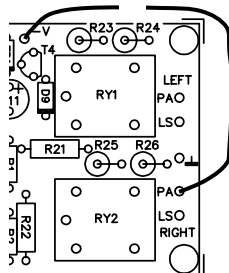

Fig. 4.0
- ❑ When the connection is interrupted again (figure 4.0), the red LED should extinguish and after approx. +/- 6 sec. the yellow LED as well.